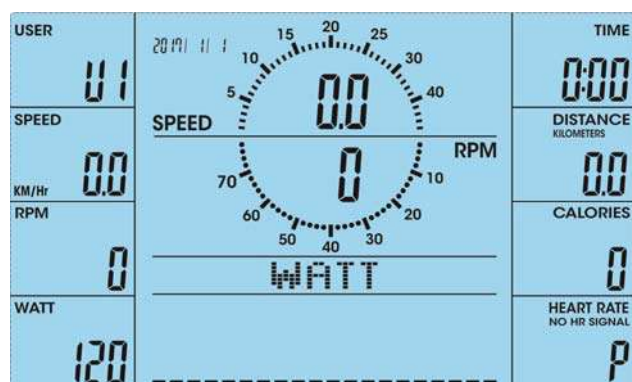
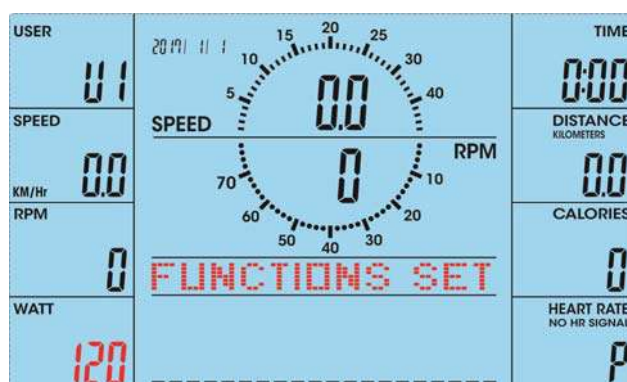

FIGURE 35
FIGURE 36
1. After enter WATT mode (FIGURE 35), the preset watt value 120 is flashing on screen, use UP or DOWN to set target value from 10 to 350 (FIGURE 36). Pressing START button to start training.